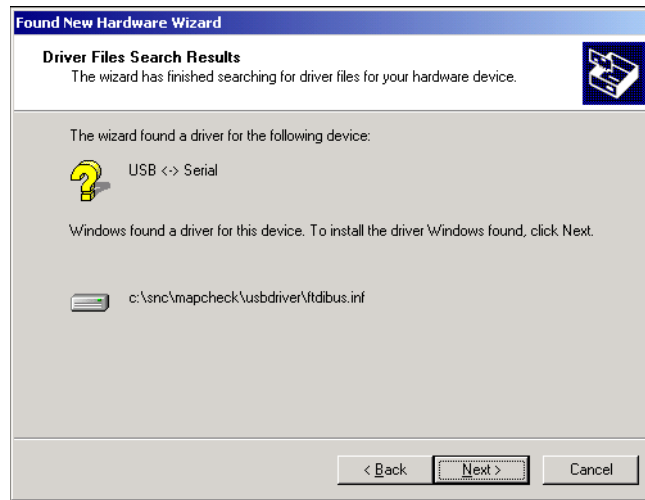

Figure 4-16. Install hardware drivers dialog box
- 4 Select "Specify a location," clear any other check boxes, and click Next. The computer will search for a driver, install it, and display the results (Figure 4-16).